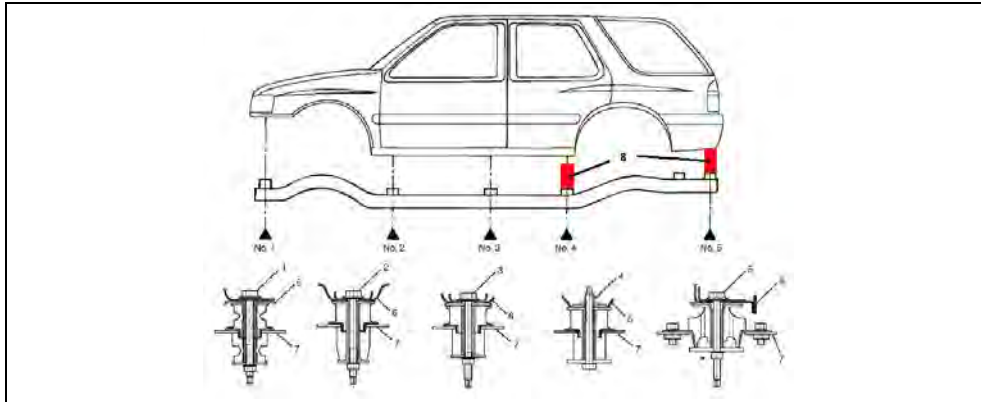

Figure 54
6. Remove body mount mounting nuts and bolt (mounts #1, #2, #4 and #5 use nuts / mount #3 uses a bolt) for body mounts #1 through #5. See Figure 54.